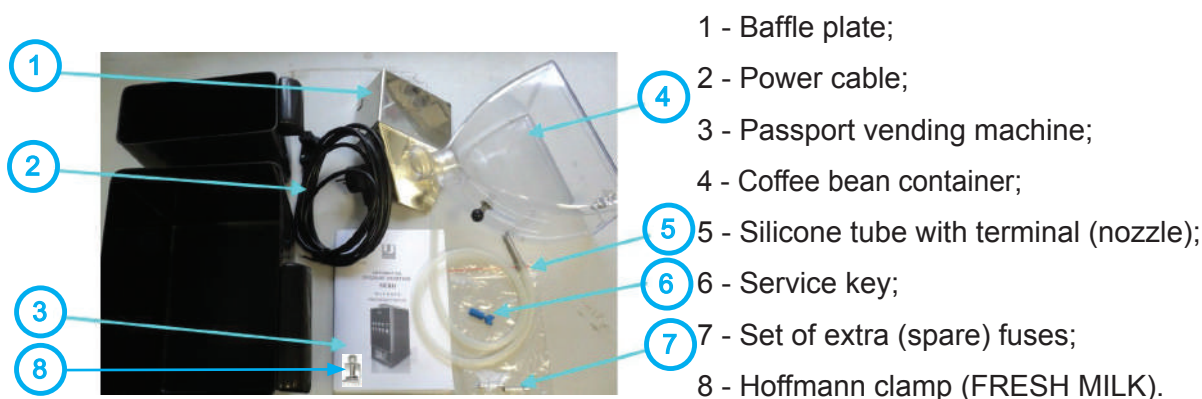

Fig.4.2
2. remove the vending machine components, included in the scope of supply, from the waste containers, located in the lower part of the vending machine, (see fig. 4.2).
4. To install the baffle plate, hang it on the bolt (see fig.4.2, pos.1), which is situated on the left inside wall of the vending machine's body under the espresso group.
The components and parts, included in the machine's package are packed in the waste containers, inside the machine (see fig.4.2).